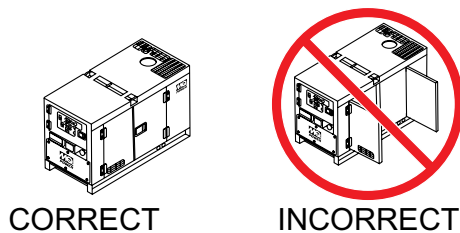

Figure 25. Engine Enclosure Doors
3. Close all engine enclosure doors (Figure 25).